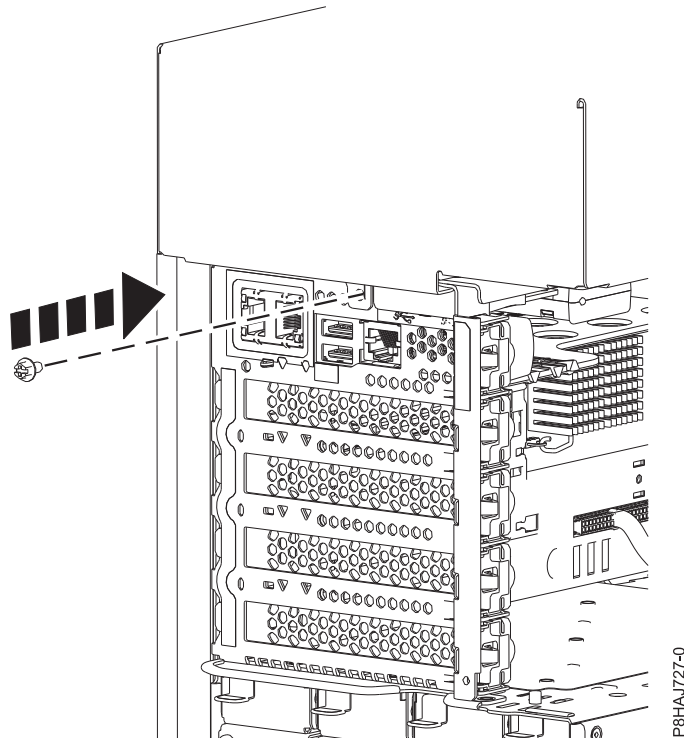

Figure 143. Installing the 8286-41A side cover screw
5. Install the side cover rear screw with a Phillips screwdriver as shown in Figure 143 on page 159.